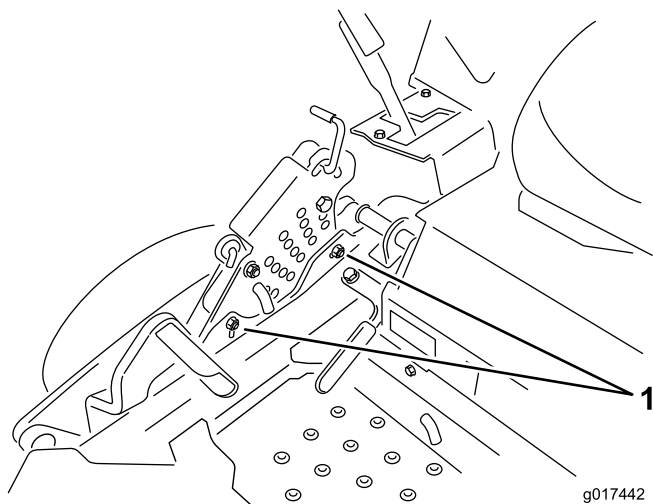

Figure 72
12. To adjust the single point system, loosen the two bolts at the bottom of the height of cut plate. Refer to Figure 72.
14. Tighten the two bolts at the bottom of the height of cut plate (Figure 72). Torque to 27-33 ft-lb (37-45 N-m).